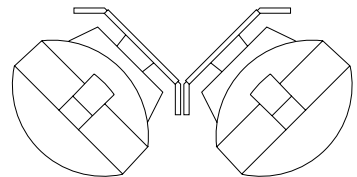

Figure 1. Using double brackets for 180° coverage with the 6155.
- INSTALLATION** Mount the Sharpshooter swivel bracket near a corner as shown in Figure 1. Connect the back case to the bracket and snap in the sighting mirror. Viewing the coverage pattern through the mirror, angle the PIR slightly toward the center of the room. The outside coverage zone should run parallel to, but not touch, the wall to be protected. With proper aiming you can reduce the unprotected space near the wall. You may want to mask the look-down zones on the 6071 long range lens. Using the AP425, insert the mirror mask over that portion of the mirror that “looks out” into the room.